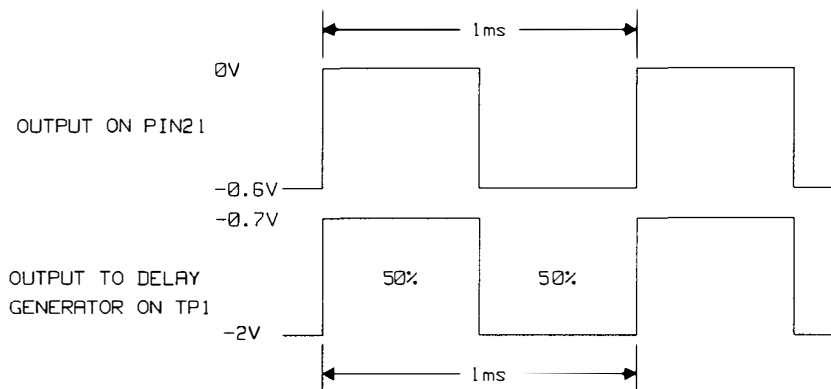

Figure 10.3-10. Period Generator output signals
3. Check the trigger output signal at pin 21 of U200 against Figure 10.3-10.
4. Check the signal being sent to the delay generator IC220 at TP1 against Figure 10.3-10.